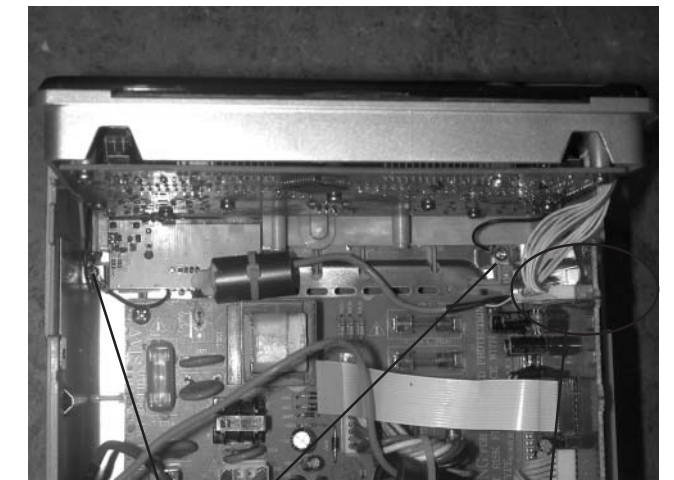

Figure 5
- 1) Loosen 2 screws "E" on left/right sides of the bottom cover as shown in Figure 5.